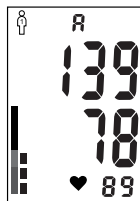
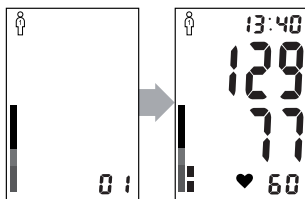

Fig.17
Fig.18
3. Press the MEM1 or MEM2 to see the figures stored in the memory. At the first depression of button MEM1 (or MEM2) mean value of 3 last measurements, kept in memory M1 (or M2), will appear on the screen, marked by symbol «A» (fig. 17). At repeated depression of button MEM1 (or MEM2) indicator of selected memory MEM1 «M1» (or MEM2 «M2») and number of memory cell will appear on the screen, and in 1 second its content is displayed (fig. 18).